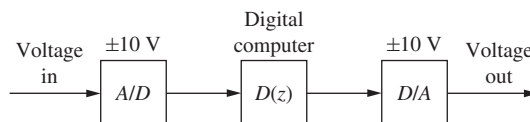

FIGURE P4.4-2 Hardware configuration for Problem 4.4-2.
- 4.4-2.** Consider the *hardware* depicted in Fig. P4.4-2. The transfer function of the digital controller implemented in the computer is given by